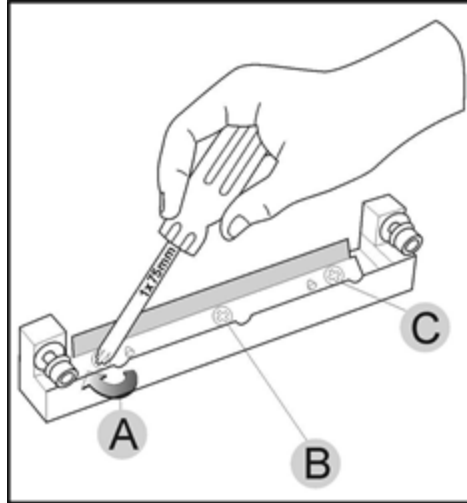

Figure 4-61 Tightening the roller scraper screws
- Tighten the screws in the order shown in Figure 4-61.